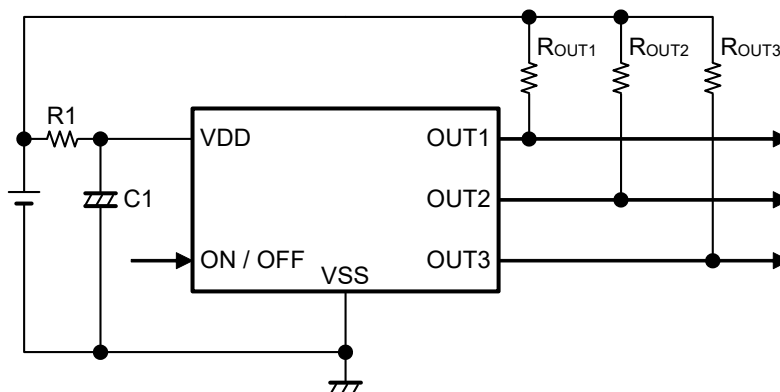

Figure 7
- In applications where a resistor is connected to the input (refer to **Figure 7** in "**■ Standard Circuit**"), the feed-through current which is generated when the output switches causes a voltage drop equal to feed-through current \times input resistance. In this state, the feed-through current stops and its resultant voltage drop disappears, and the output switches. The feed-through current is then generated again, a voltage drop appears. Note that an oscillation may be generated for this reason.